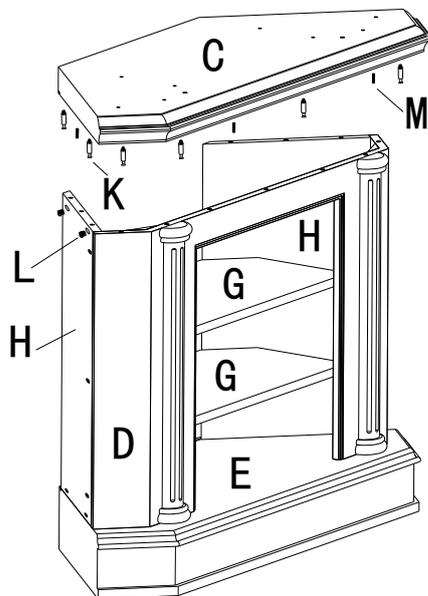

Figure 4
4. Put 9 CAM Dowels (K) and 4 Wood Dowels(M) onto Middle Clapboard (C), and lay Middle Clapboard (C) onto Underside Panel (D) and Left & Right Panel (H) assembly. Then put 9 Cam Locks (L) onto Underside Panel (D) and Left & Right Panel (H) assembly and screw them with a manual screwdriver. (Figure 4)